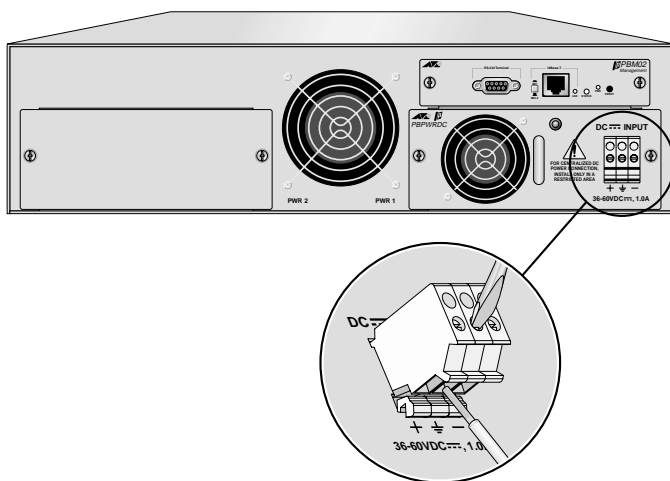

Figure 9 Connecting the Stripped Wire
- d. Connect the frame ground wire to the terminal marked with the ground symbol by inserting the wire into the terminal block and tightening the connection with a flathead screwdriver. See Figure 9.